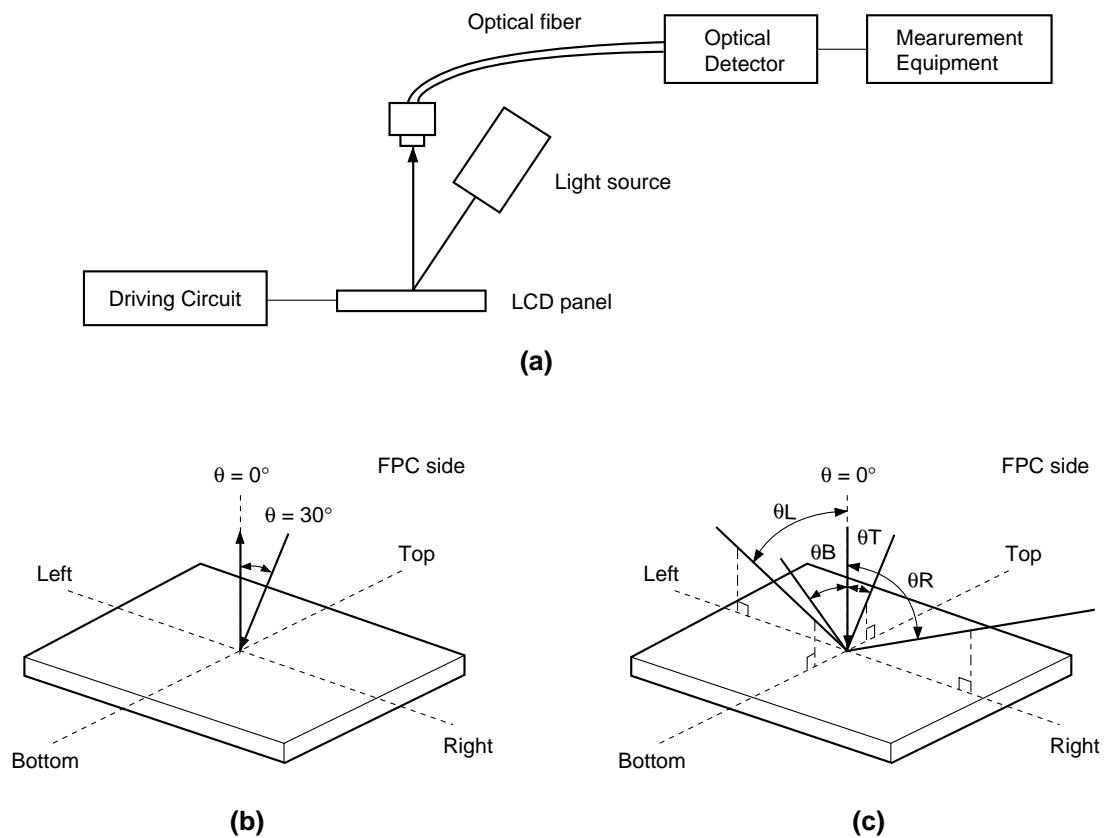

Fig. 1. Measurement system-1
In the Measurement system-1 (see Fig. 1 (a), (b)), calculate the reflectance factor by using the formula (1).
2. Contrast ratio with front light turned off (CR)
In the Measurement system-1 (see Fig. 1 (a), (b)), measure the reflectance factor of "White" and "Black" respectively and calculate by using the formula (2).
In the Measurement system-1 (see Fig. 1 (c)), viewing area is defined by the area which makes the CR ≥ 2.